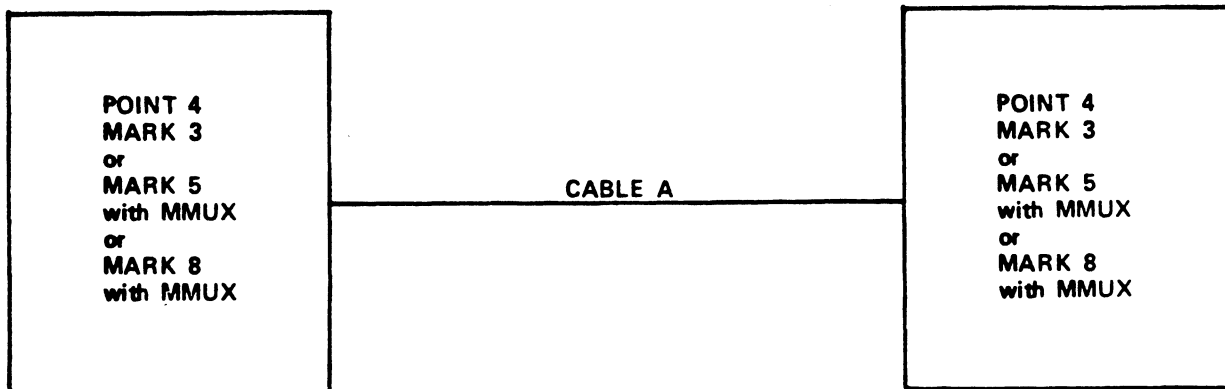

Figure 1. Local Link for \$COM
A. POINT 4-TO-POINT 4 CABLING (see Figure 1, Cable A)
1. Insure correct configuration (see Figure 1).